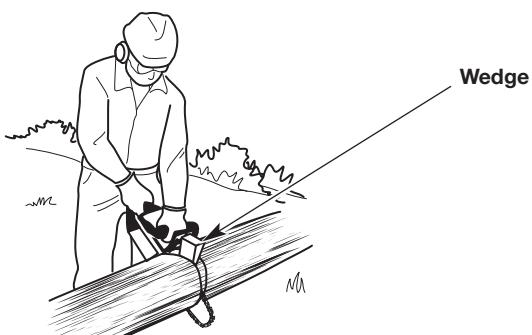

Fig. 21
2. Make the second cut from the opposite side until the two cuts meet. If the diameter of the wood is large enough, insert soft plastic or wooden wedges to hold the cut open and prevent pinching (Fig. 21). Take care not to touch the wedges with the saw chain.